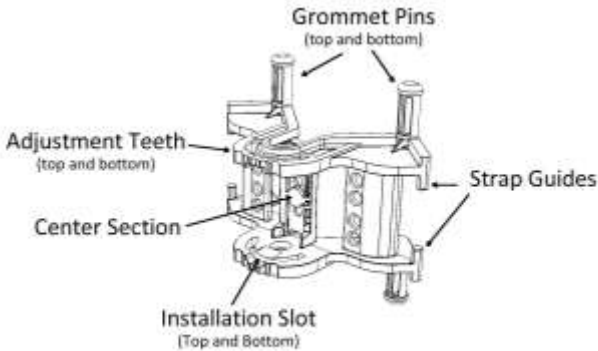
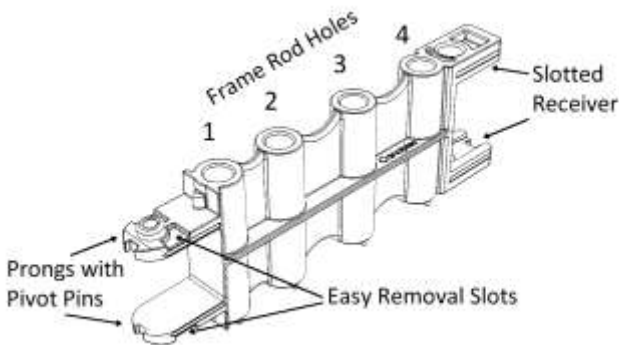

Figure 2: Angle Brace Detail Diagram
Figure 3: Extender Arm Detail Diagram
- Refer to Figure 2 and Figure 3
- Refer to Figure 3